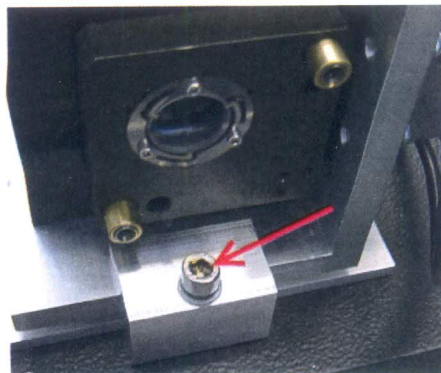

Figure 6-1 Transporting bolts of the laser
11. Unscrew the transporting bolts (from both laser ends) depicted in Figure 6-1 below.